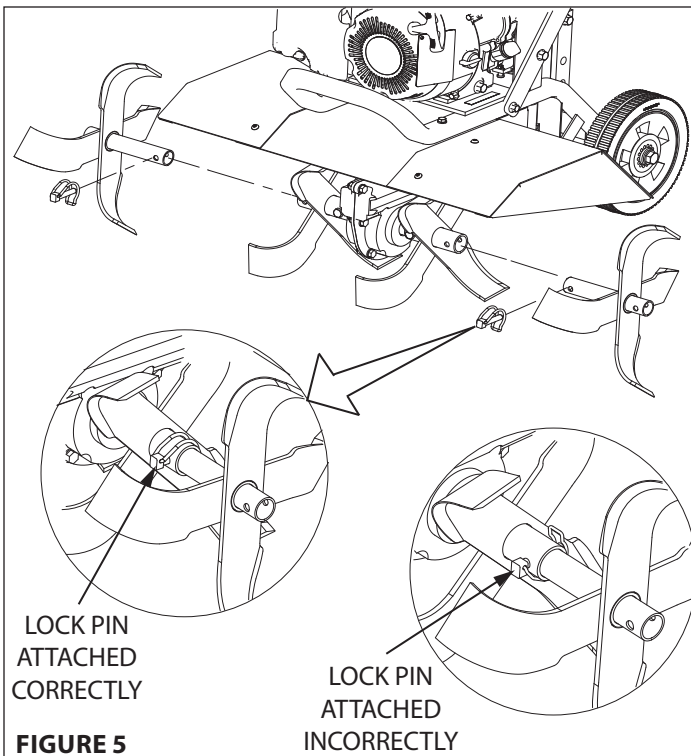

FIGURE 5
- a. Fasten outer tines to the inner tines using the 8mm x 40mm lock pins already affixed to the inner tines. Lock pins must be installed so that the pin enters the hole in the tine from the front of the tiller, and so the wire bale hinges over the top of the tine pipe and latches to the protruding pin on the back side of the tine. **SEE FIGURE 5**